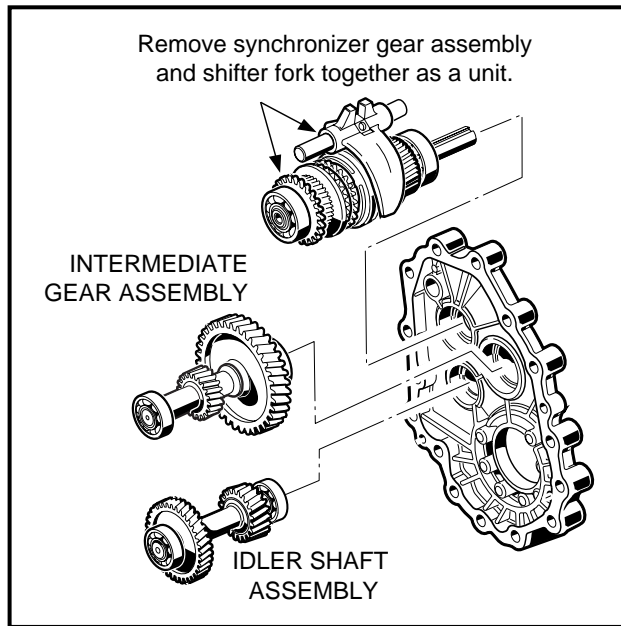

Figure 16-43 Remove Intermediate Gear
- Continue to rock and loosen the remaining gear assemblies until the intermediate gear assembly can be removed from the case. Then remove the idler shaft assembly (**Figure 16-43, Page 16-18**).
- Remove the synchronizer gear assembly and shifter fork assembly as a unit from the case (**Figure 16-43, Page 16-18**).